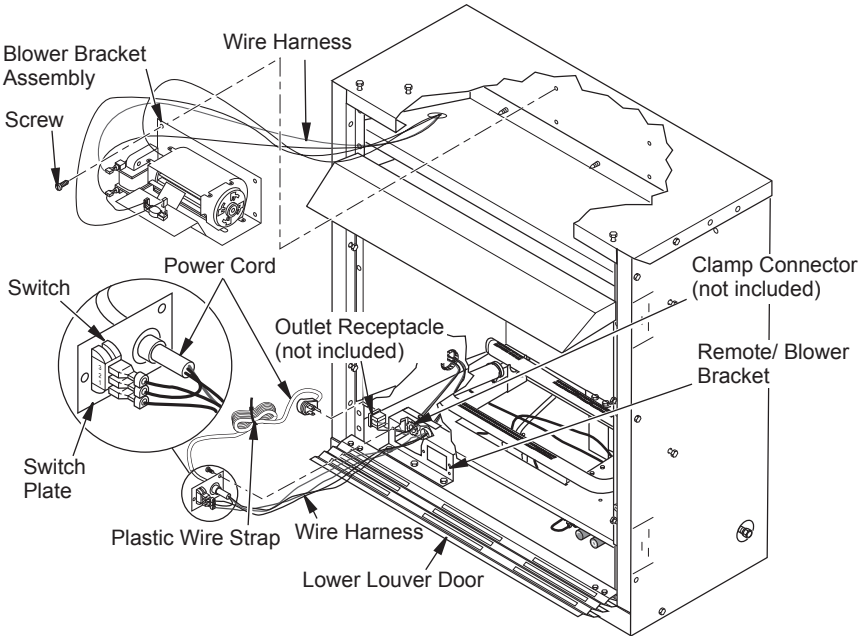

Figure 17 - Installing Blower Bracket Assembly
- Install snap bushing from blower kit into one hole on rear of remote/blower bracket (see Figure 17, page 15). The other hole is for a strain relief clamp (not supplied) to secure incoming electrical supply.
4. Plug power cord to outlet receptacle (not provided) as shown in Figure 17. Wind the extra power cord and tie with plastic wire strap (see Figure 17). Set power cord bundle between the remote/blower bracket and outer casing, away from the burner.